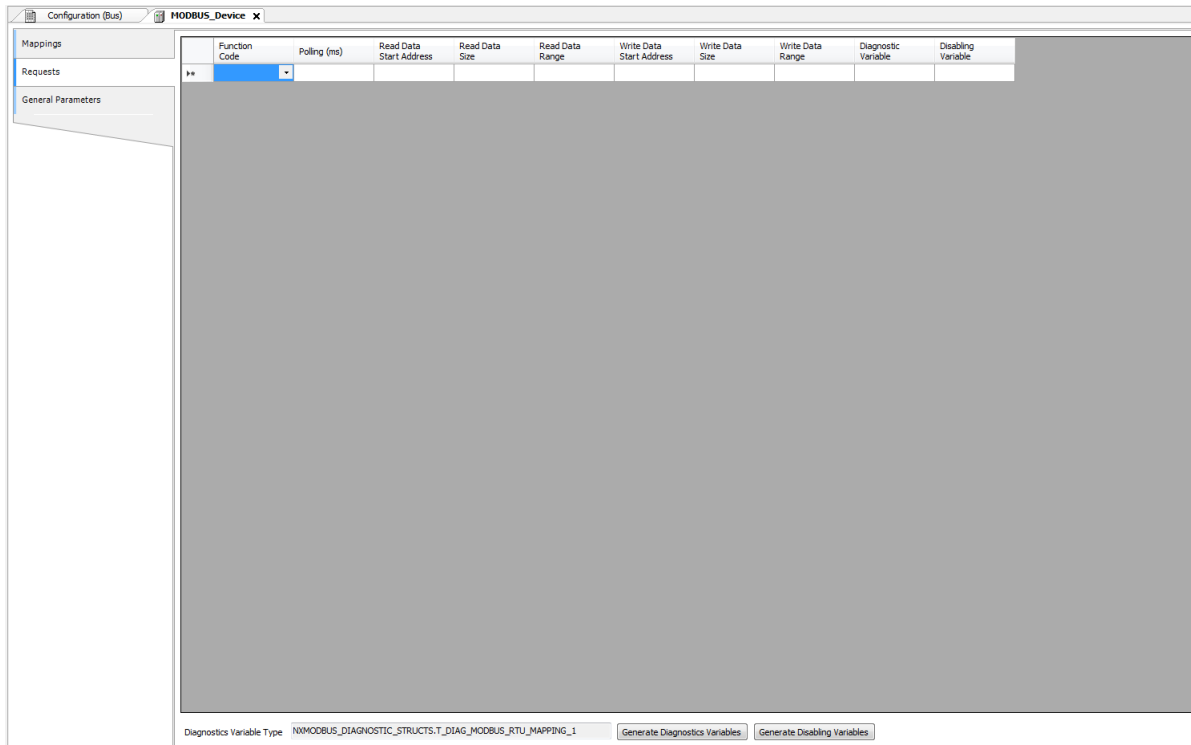

Figure 50: Data Requests Screen MODBUS Master
- Add and configure the MODBUS requests as presented in Figure 50, specifying the function, the scan time of the request, the starting address (read/write), the data size (read/write) and generate diagnostic variables and disabling the request via the buttons at the bottom of the window.